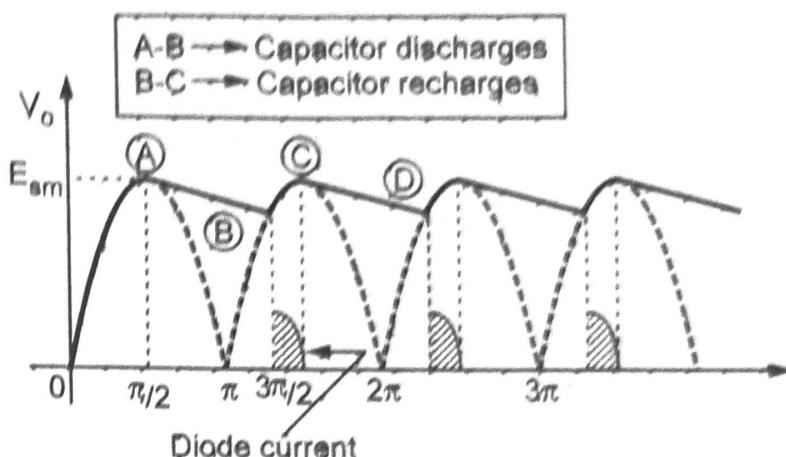

Fig. Q.31.2 FWR output with capacitor filter
- So during the period from $\frac{\pi}{2}$ to π , the capacitor C supplies the load current. It discharges to point B shown in the Fig. Q.31.2.
- Again at point C, diode D_2 stops conducting and capacitor supplies load and starts discharging upto point D in the next quarter cycle of the rectified output voltage as shown in the Fig. Q.31.2. At this point, the diode D_1 conducts to charge capacitor back to E_{sm} . The diode currents are shown shaded in the Fig. Q.31.2.